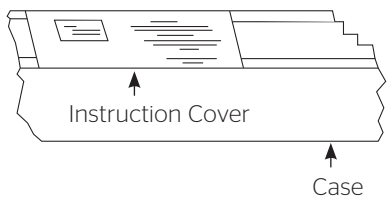

Figure 1
2. Remove instruction cover plate (Fig. 1). Do not remove metal shipping brace (secures roller), wrapping paper, or tape strips until screen is installed.